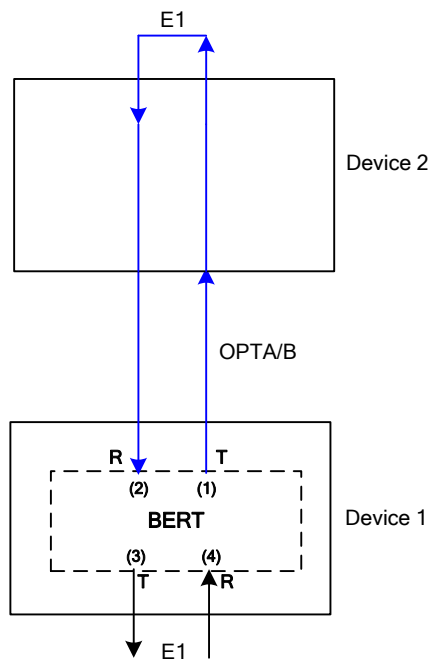

Fig. 5-6-2-1 Application1
choose one channel from E1_1 to E1_16 as the tested channel, open to transmit at position (1) of device 1, thus, the BERT start to insert $2^{15} - 1$ pseudo random sequence into the transmitting channel; on device 2, configure that E1 as loopback to line side or use cable to loop the E1 port, open to receive at position(2) of device 1, check for bit error static by BERT, as Fig.5-6-2-1 shows;